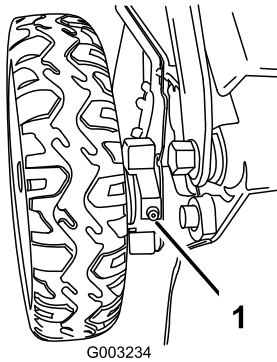

Figure 41
1. Wipe the grease fittings just inside the rear wheels with a clean rag (Figure 41).